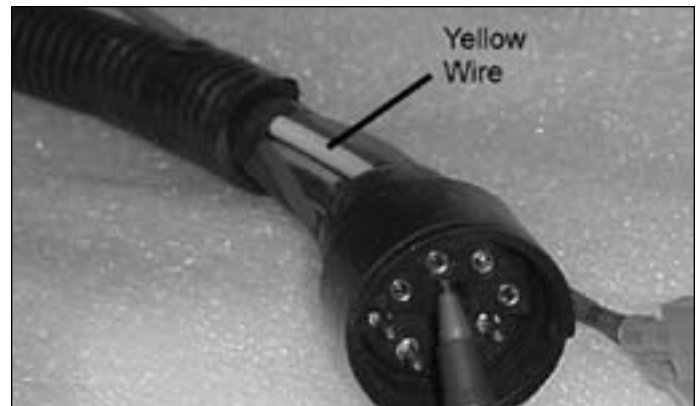

Figure 35 - Test Voltage At Harness Plug
5. Disconnect the wire harness from the Power Master electronics module. Connect voltmeter negative lead to battery negative (B-) terminal and positive lead to wire harness pin from the yellow wire. Turn key switch to forward and depress accelerator pedal. Test for battery voltage. See Figure 35. If battery voltage is observed, continue to next test. If battery no voltage is observed, check tow switch resistor fuse, tow switch and yellow wire connections at tow switch and main solenoid. If battery voltage is observed, reconnect harness to Power Master electronics module and continue to next test.